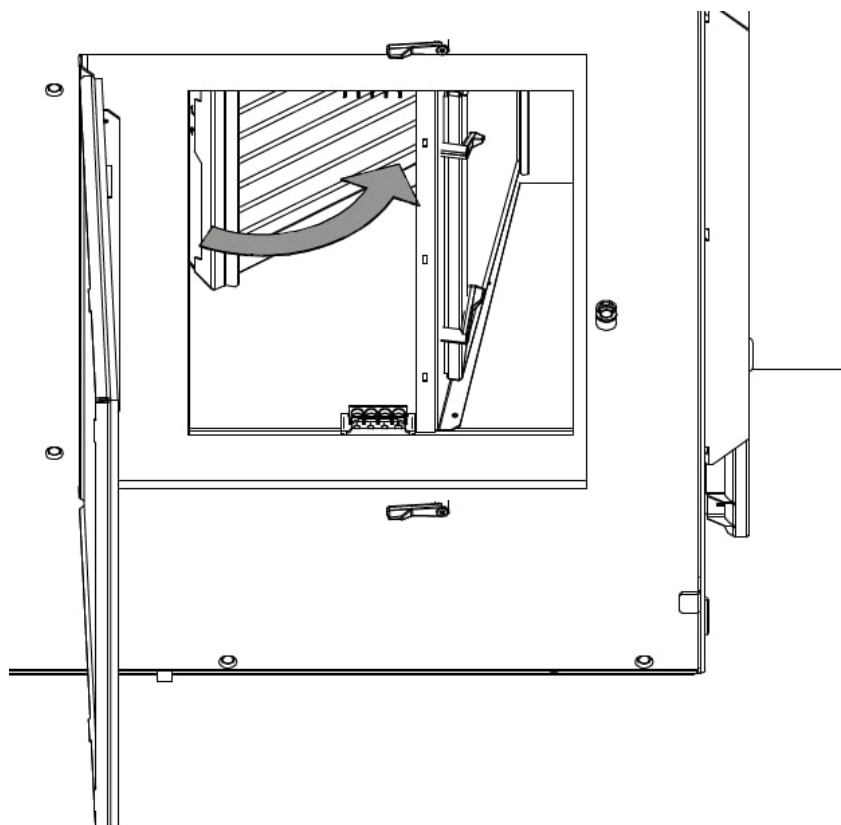

Figure 32: Close the filter hinge
8. Close the filter hinge, see Figure 32.